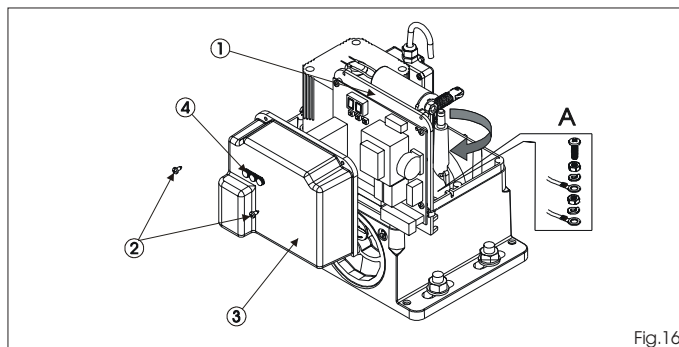

Fig.16
Connect the earth cables as shown in Fig. 16 ref. A.
In the gearmotors, the electronic control unit is fitted to an adjustable support (Fig. 16 ref. 1) with transparent lid (Fig. 16 ref. 3).
The board programming push buttons (Fig. 16 ref. 4) have been located on the lid. This allows the board to be programmed without removing the lid.